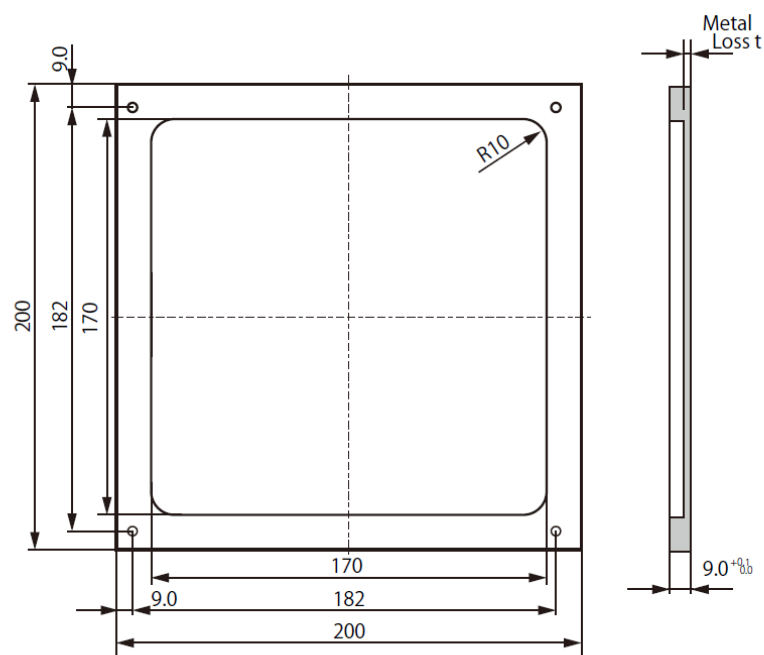

Figure 4: Reproducing Metal Loss
- Figure 4 demonstrates an area with metal loss.